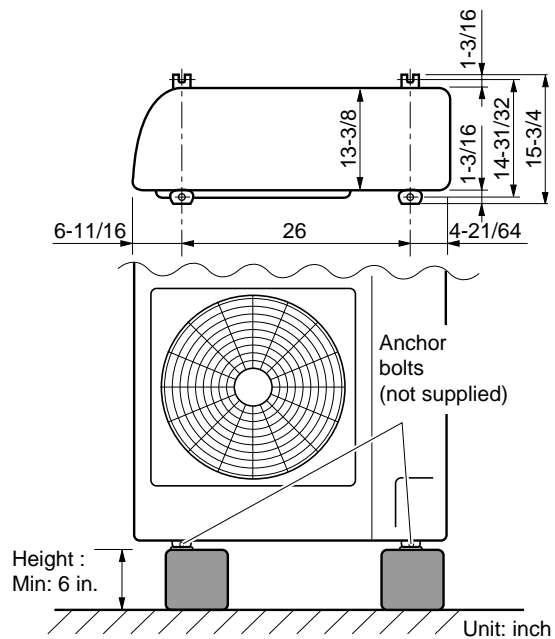

Fig. 4-2
- (1) Install blocks or a solid platform under the outdoor unit which provides a minimum height of 6 in. from ground level. (Fig. 4-2)
- (2) The outdoor unit must be bolted down tightly to the blocks or platform with 4 anchor bolts.